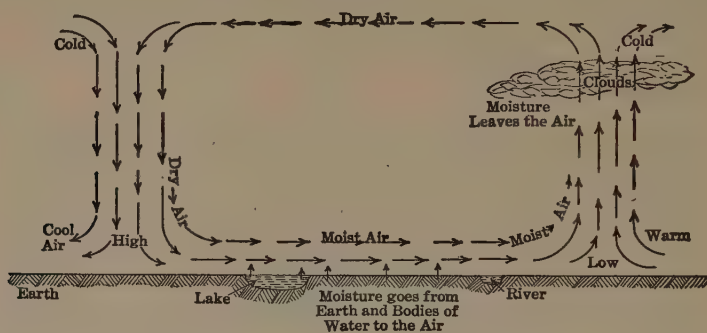

FIG. 83.— Circulation of air in "high" and "low" areas. Natural convection currents on a large scale produce many of our winds.
**Anticyclones.** Alternating with the low-pressure areas of the cyclonic storms, or **cyclones**, are areas of high pressure, which are called **anticyclones**. Conditions in these areas of high pressure are contrasted with those of the low-pressure areas in Table VIII. Examine Fig. 83, and compare conditions mentioned there with those given in the table. The winds blow outward in a clockwise spiral from the high area and inward in a counterclockwise spiral toward the low area.